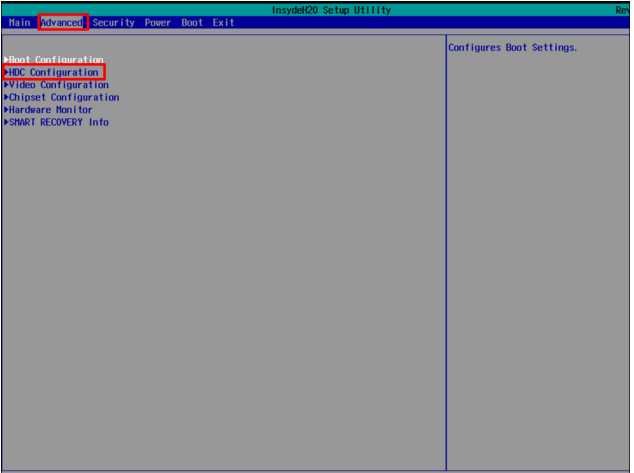

Figure 34
5.2 In the configuration screen, select **Advanced** → **HDC Configuration** as shown in Figure 34.